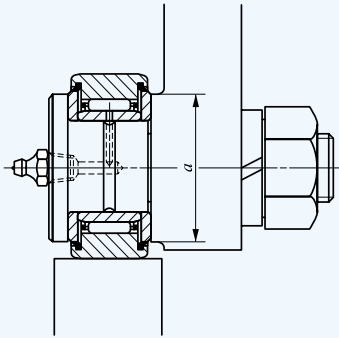

Fig. 1 Mating seating dimension "a"
- ① In case of shield and sealed types, match the side surface correctly to the mating seating surface indicated by the dimension a shown in the dimension table, and fix them. (See Fig. 1.)